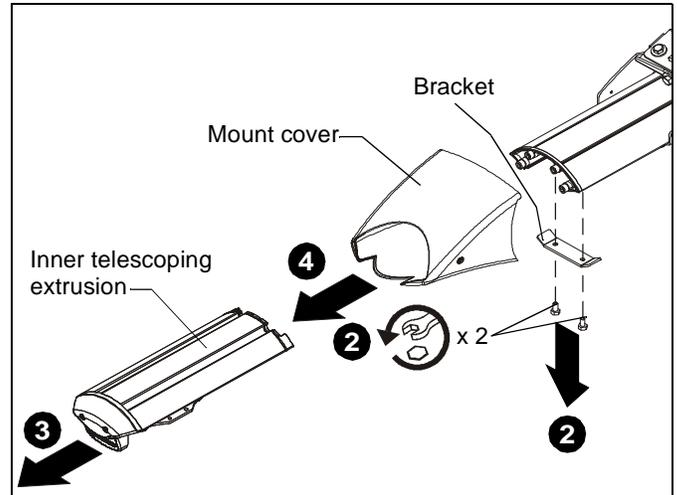

Figure 2
2. Remove two hex bolts and bracket from the underside of the mount. (See Figure 2)
3. Remove inner telescoping extrusion. (See Figure 2)
4. Slide mount cover away from wall mount and remove. (See Figure 2)